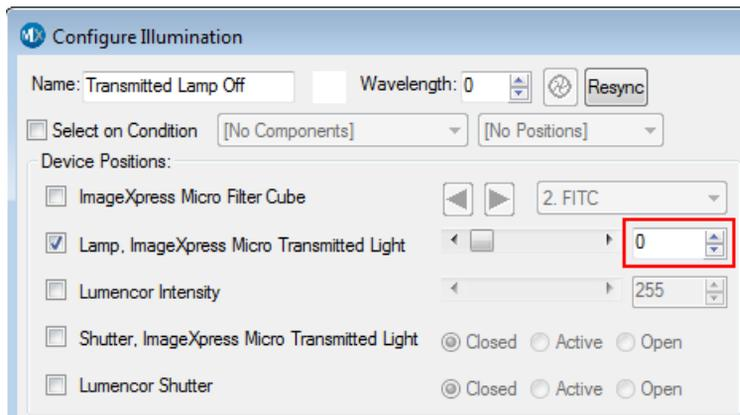

Figure 4-6: Configure Illumination dialog: Transmitted Lamp Off
2. In the Configure Illumination dialog, create an illumination setting named **Transmitted Lamp Off**, select **Lamp, ImageXpress Micro Transmitted Light**, and set the lamp illumination to zero, as shown in Figure 4-6.